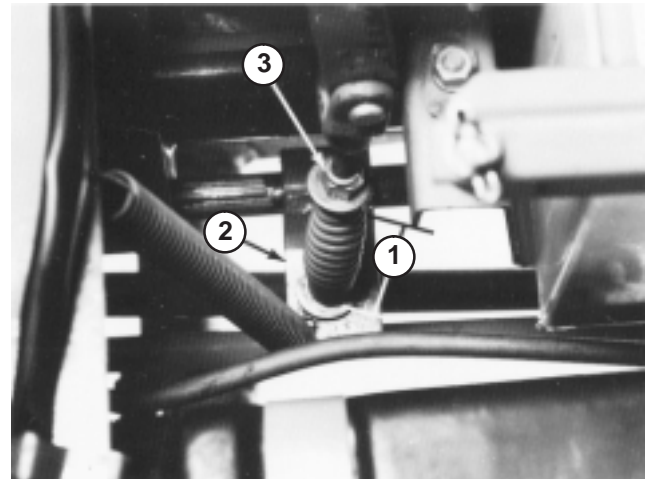

Figure 42
3. Measure length of PTO spring between flat-washers (Fig. 42). There should be a spring length of 3-3/16 inches (81 mm).
4. To adjust, hold head of adjusting screw with wrench (under PTO actuating arm) and turn locknut (Fig. 42).